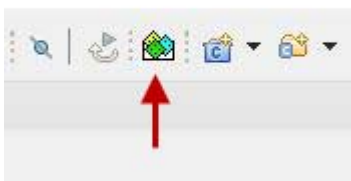

Figure 2. Opening the CMSIS-Pack Manager Perspective
3. On the top row of the Workbench perspective, click the “Make the CMSIS Packs Manager perspective visible” icon (see Figure 2).